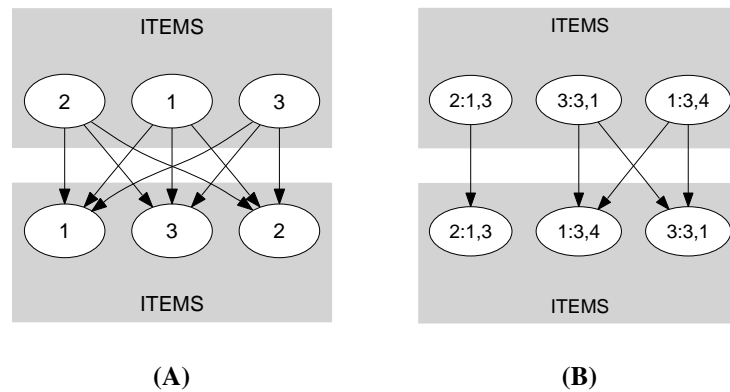

Figure 5.121: Initial and final graph of the `bin_packing` constraint
Parts (A) and (B) of Figure 5.121 respectively show the initial and final graph associated with the **Example** slot. Each connected component of the final graph corresponds to the items that are all assigned to the same bin.